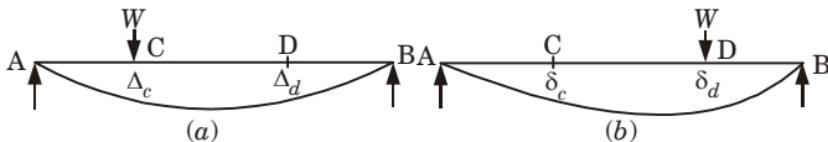

Fig. 36.
2. In Fig. 36(a) beam  $AB$  carries a load  $W$  at point  $C$ . Let the deflection at  $C$  be  $\Delta_c$  and when load  $W$  is acting at point  $D$ . Let the deflection at point  $D$  is  $\delta_d$  then according to law of reciprocal deflections or Maxwell's reciprocal deflection theorem we have